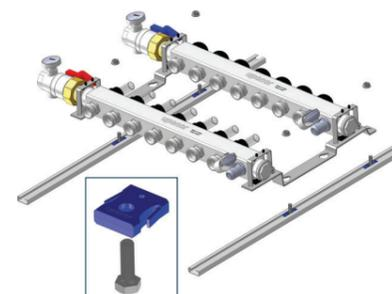

Figure 4: Mount manifold with bolts; semi-tighten with nuts
2. Mount the manifold on the rails using the extended bolts, then secure with provided nuts and semi-tighten (see **Figure 4**).